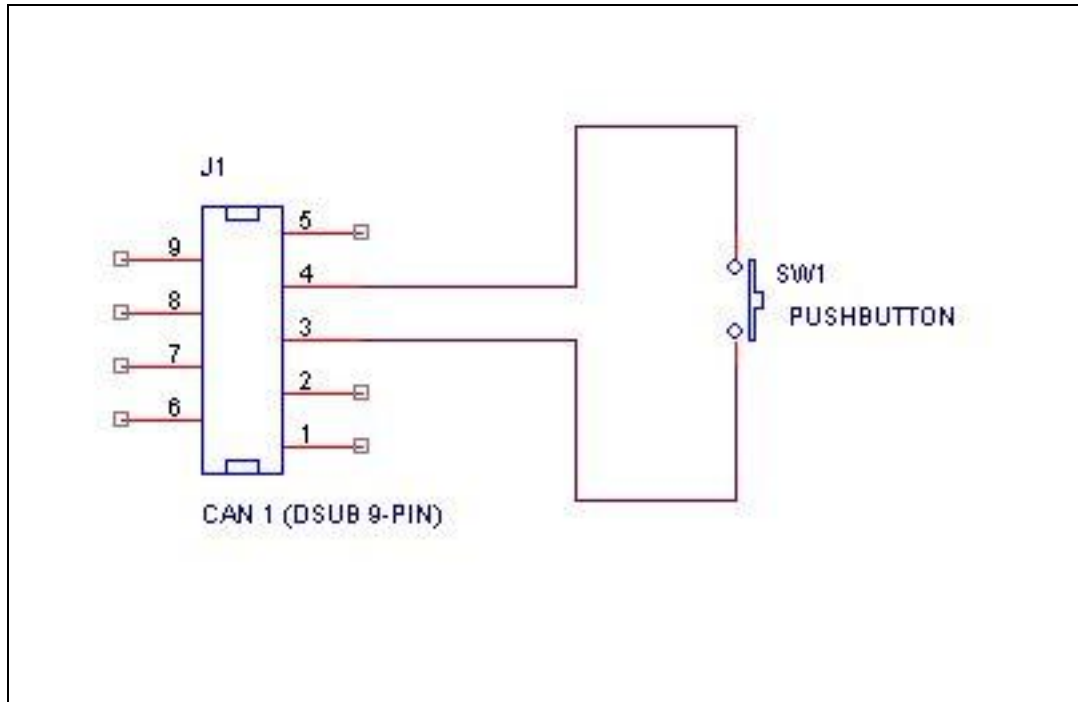

Figure 5. How to connect an external trigger switch.
- On the 9 pin CAN1 connector, connect a switch from pin 4 to ground, which can be found on pin 3 of the same connector. See Figure 5.